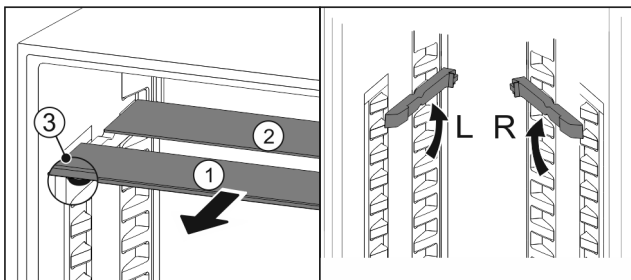

Fig. 24
- Pull the glass panel out Fig. 24 (1) from the front, one at a time.
- ▷ The glass panel Fig. 24 (1) and trim strip are at the front.
- ▷ The stops Fig. 24 (3) point down.